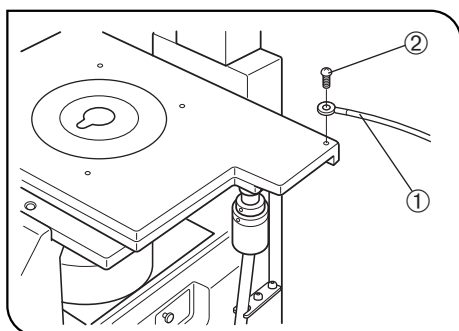

Fig. 18
3 Connecting the Grounding Wire (Fig. 18)
(Fig. 18)
Prepare a grounding wire ① and one M4 screw ② and attach the grounding wire as shown in Fig. 18.